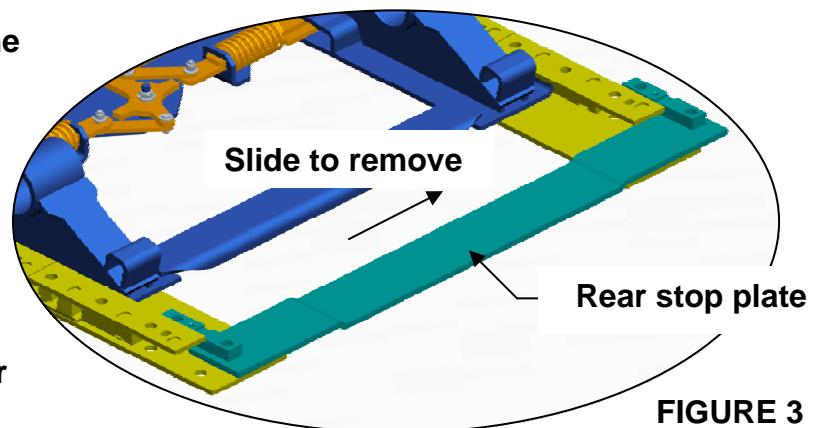

FIGURE 3
b) Remove (4) rear frame bolts attaching the rear stop plate to the tractor frame.
c) Remove the rear stop plate by sliding it sideways (see Figure 3).